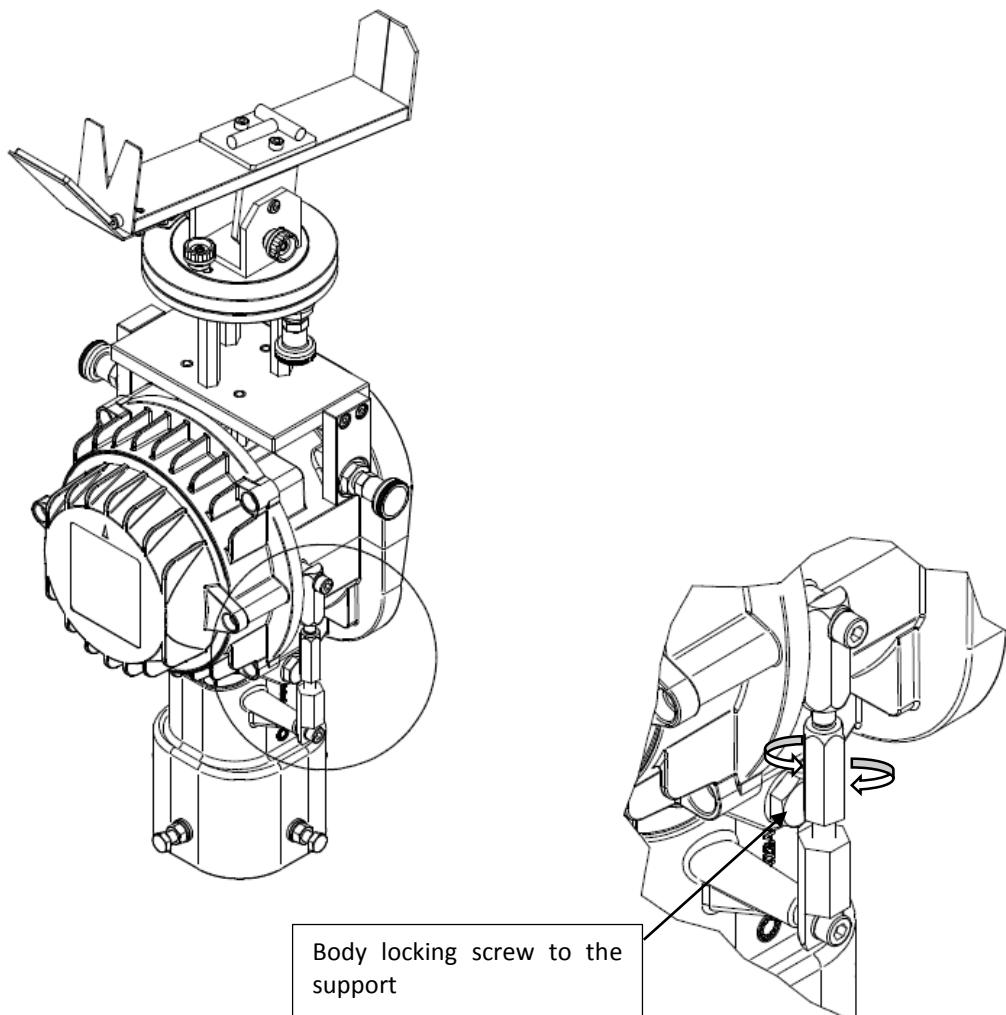

Figure 8: vertical aiming adjustment device
- Operate the vertical aiming adjusting device (tie-rod) up to the spirit level bubbles of the optical device are again centered (fig. 8).